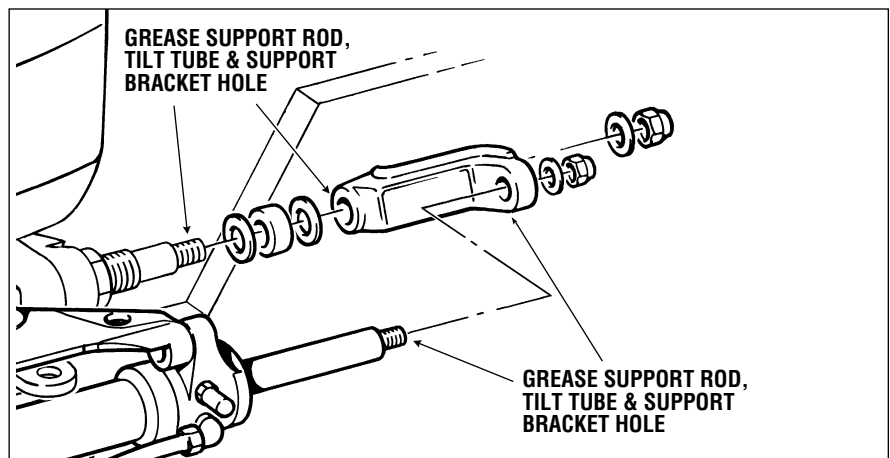

Figure 51.
4. Grease all contact points shown in figure 51. DO NOT remove tiller bolt to re-grease.